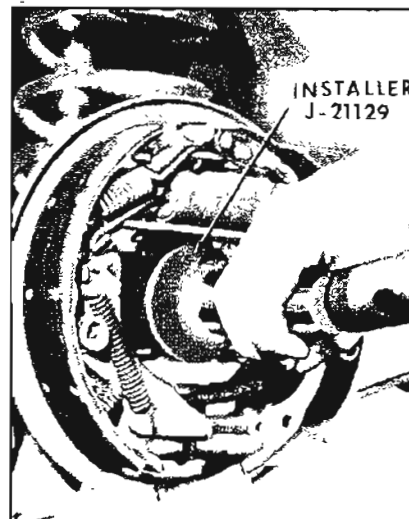

Figure 6-10—Installing Axle Shaft Seal
4. Position seal over Installer J-21129 and drive seal straight into axle housing until fully seated. See Figure 6-10.